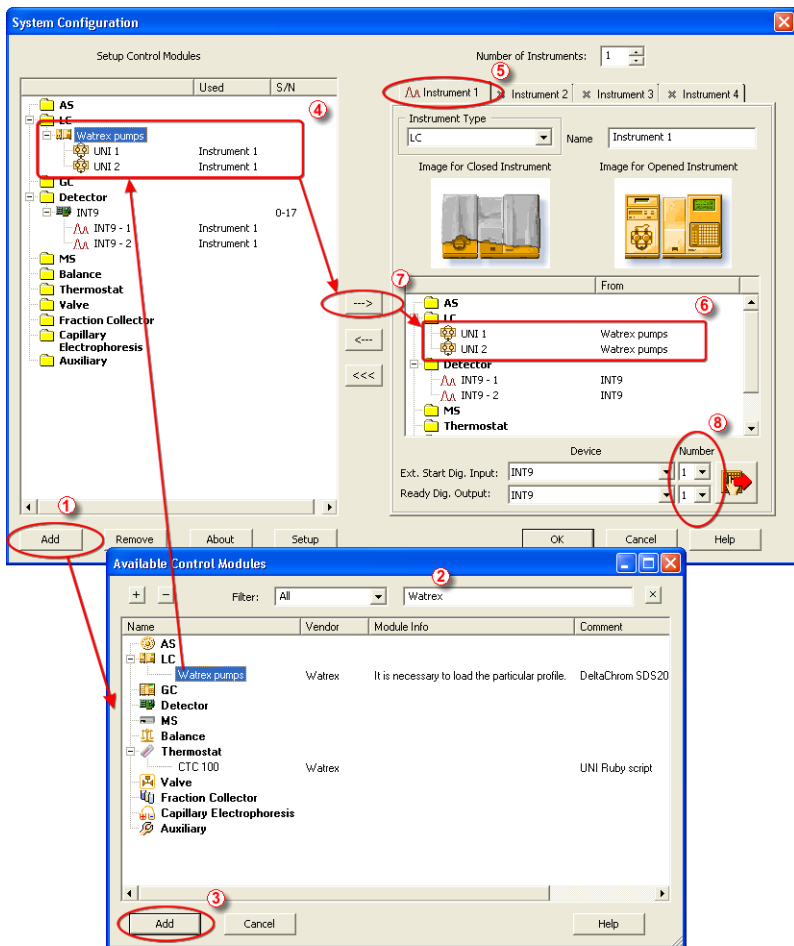

Fig 2: How to add **Watrex pumps**
Start the **Clarity** station by clicking on the  icon on the desktop. Invoke the **System Configuration** dialog accessible from the **Clarity** window using the *System - Configuration...* command. Press the **Add** button ① (see Fig 2 on pg 6.) to invoke the **Available Control Modules** dialog. You can specify the searching filter ② to simplify the finding of the driver. Select the **Watrex pumps** item and press the **Add** ③ button.